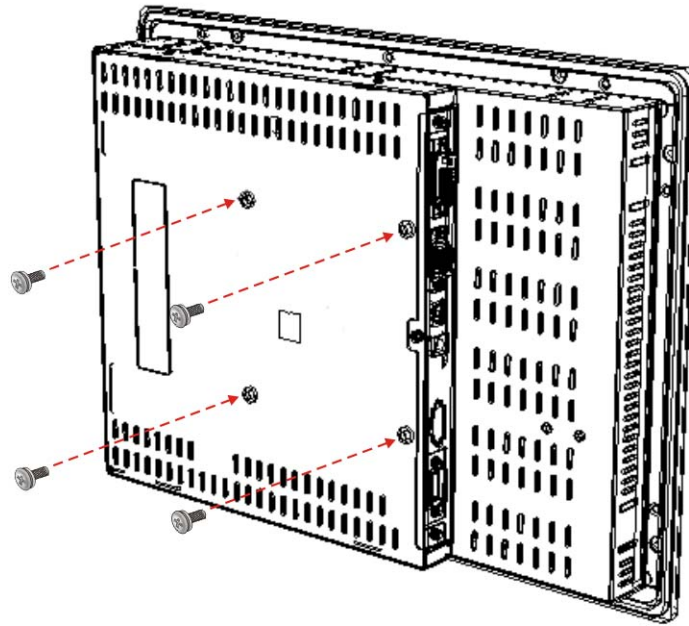

Figure 5-12: Monitor Support Screws
Step 6: Insert the four monitor mounting screws provided in the wall mounting kit into the four screw holes on the rear panel of the monitor and tighten until the screw shank is secured against the rear panel (**Figure 5-12**).